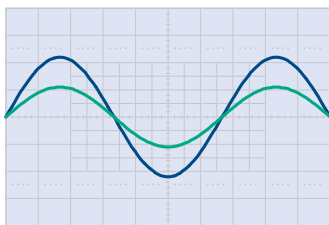

Fig. 1 - Unity Power Factor
To provide testing under the broadest range of loading conditions, the 4600 Series AC Electronic Load offers 7 different emulation modes. Constant Current (CC) mode provides current to be drawn constantly, making it suitable for non-linear, linear, and regulation loading. Constant Resistance (CR) mode allows the electronic load to emulate a power resistor. Constant Voltage (CV) allows emulating a shunt regulator. Constant Power (CP) mode emulates a constant-power load such as a switching power supply. Short Circuit (SC) mode allows the electronic load to test the UUT's short circuit protection capability. Unity Power Factor (UPF) (Fig. 1) mode brings power factor to unity, useful when the input voltage is non-sinusoidal. The new Complex Non-Linear Waveform (CNL) mode allows the user to define the waveform to prevent UUT current over-stressing in the event of a voltage collapse. These comprehensive capabilities provide the user almost every conceivable AC loading condition possible.